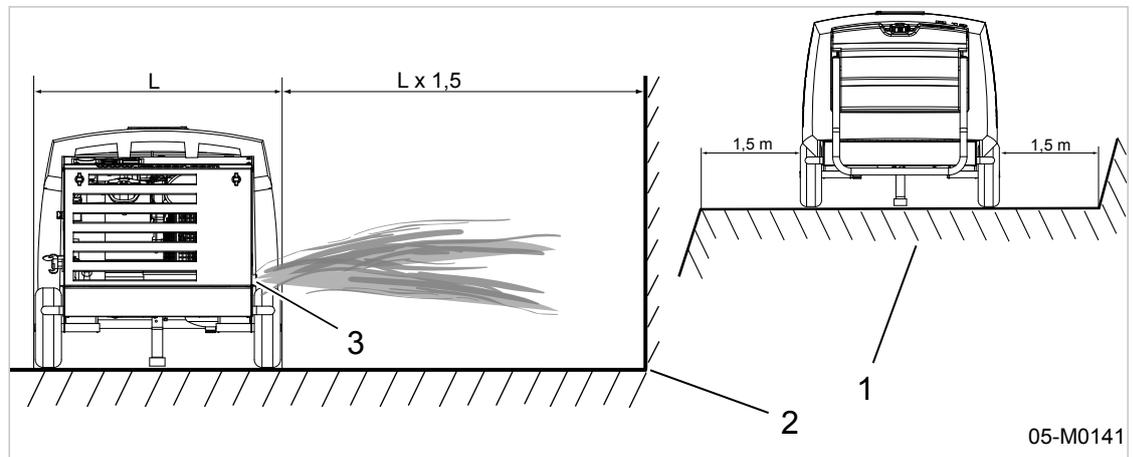

Fig. 9 Minimum distance from excavations/slopes and walls
- ① Distance from excavations/slopes
- ② Required wall distance
- ③ Side exhaust outlet, see also chapter 13.4.
1. Keep sufficient distance (at least 5 feet) from the edges of excavations and slopes, see Fig. 9, item ①.
5. Locate the machine with maximum possible distance from any wall, see Fig. 9, item ②.